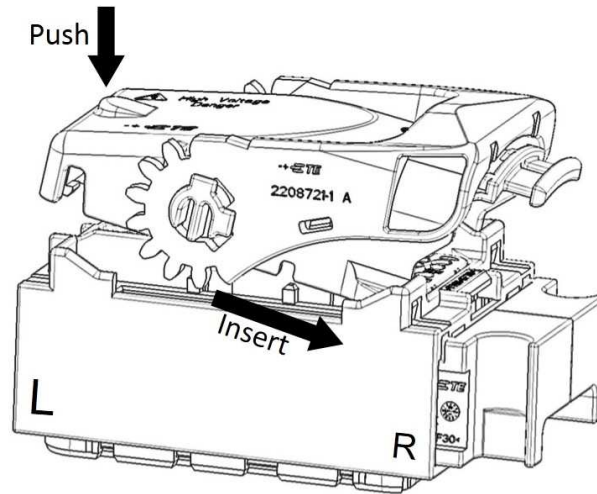
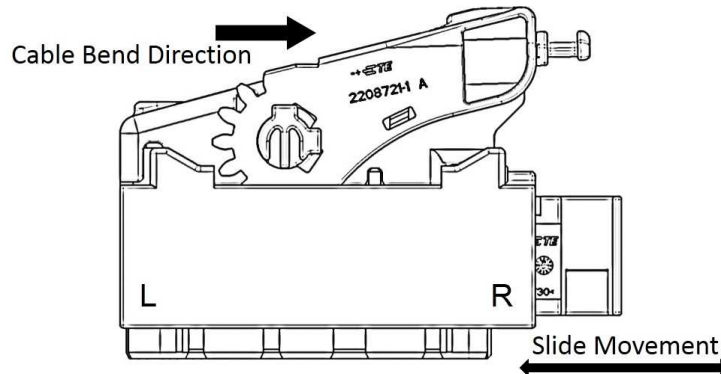

Figure 10
Figure 11
For mounting of the Cover-Lever assembly (5), the lever and slide in the housing (1) of 105 position connector must be in end lock position. The cable must be bend towards the Right side of housing (as shown in figure 11) and the Cover-Lever assembly (5) must be mounted and pushed till the locking noise heard (as shown in figure 10). The end lock position of the lever will be in the right side of the housing.